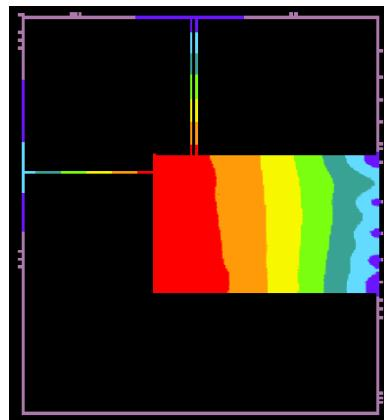
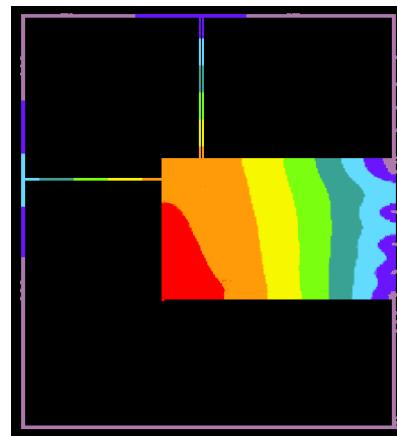

Figure 4-8 **VDD static IR drop map**
Figure 4-9 **VSS static IR drop map**
3. Evaluate the overall static voltage drop by clicking on the **IR** button, as shown in an example VDD plot in Figure 4-8 and VSS plot in Figure 4-9.